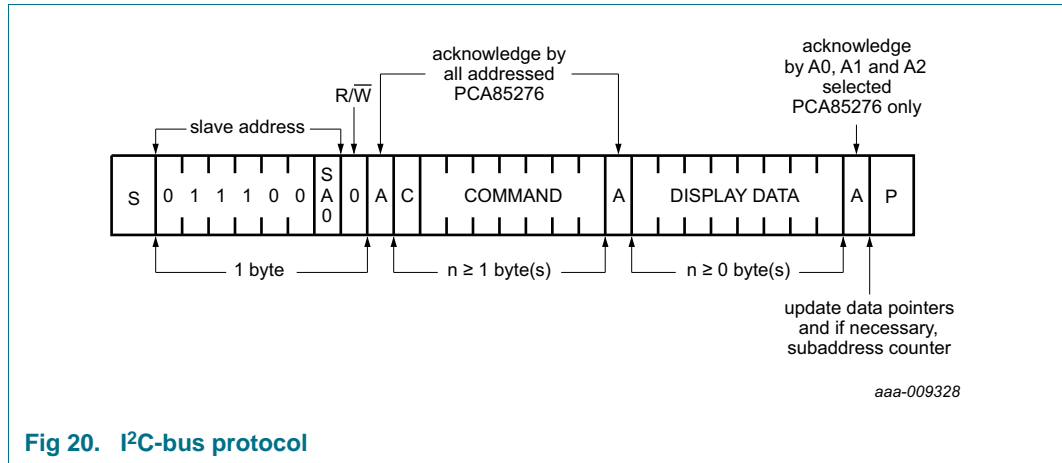

Fig 20. I2C-bus protocol
The I2C-bus protocol is shown in Figure 20. The sequence is initiated with a START condition (S) from the I2C-bus master which is followed by one of the two possible PCA85276 slave addresses available. All PCA85276 whose SA0 inputs correspond to bit 0 of the slave address respond by asserting an acknowledge in parallel. This I2C-bus transfer is ignored by all PCA85276 whose SA0 inputs are set to the alternative level.